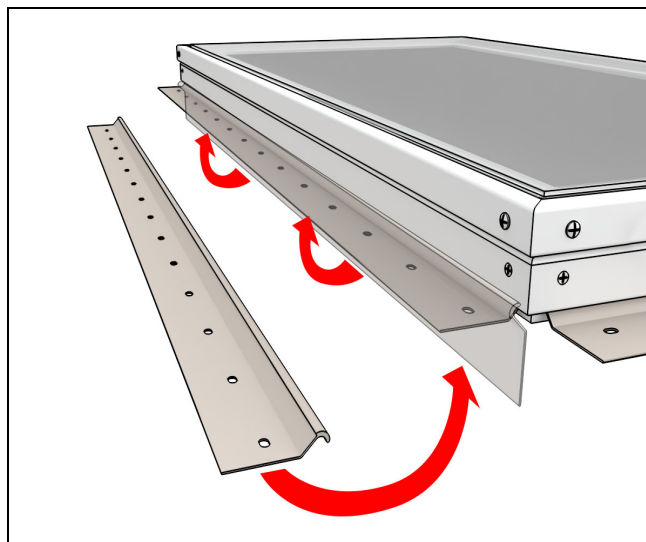

Figure 9
7. Install mounting flanges. Install on ground, may need to use force to insert in kerf. Corners of flange are sharp, use caution when installing. See Figure 9.